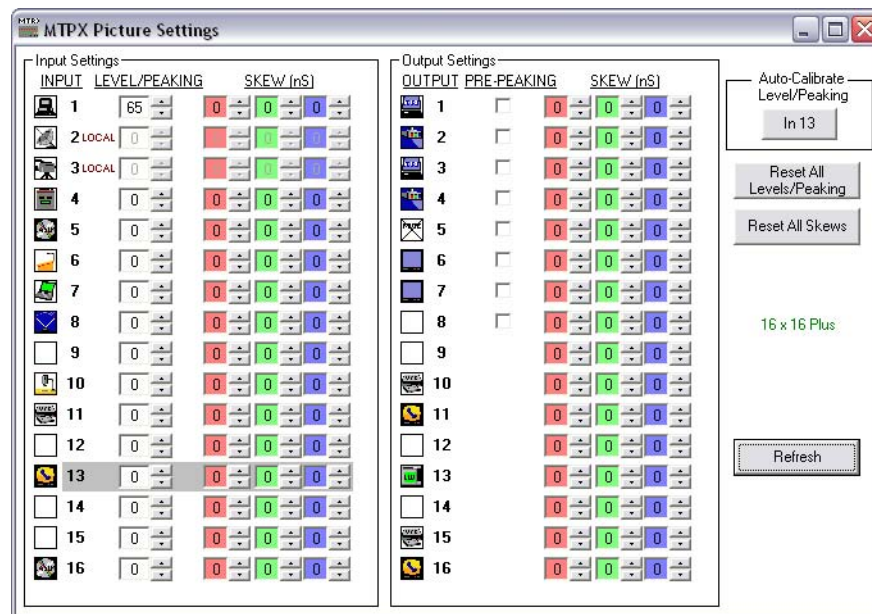

Figure 5-16 — MTPX Picture Settings window
MTPX Picture settings — Displays the MTPX Picture Settings window (figure 5-16), which allows you to set the input picture adjustments (level/peaking and skew) and the output picture adjustments (pre-peaking and skew). The Auto-Calibrate Level/Peaking button lets you use the included MTP signal generator to automatically set the input level/peaking. See “Optimizing the Video” on page 5-24.
4. In the Matrix Switchers Control Program, click **Tools > MTPX Picture settings** to open the MTPX Picture Settings window (figure 5-16 on page 5-20).